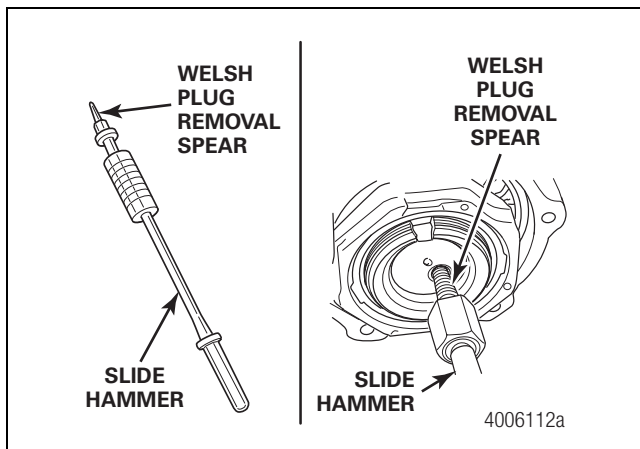

Figure 2.8
- Use a slide hammer fitted with the welsh plug removal spear to remove the spindle welsh plugs from both ends of the axle. Use care not to score the inside diameter of the spindle bore. Figure 2.8. A slide hammer and welsh plug removal spear are available from Meritor to help remove these plugs. Refer to Section 8 for part numbers of special tools and supplies.